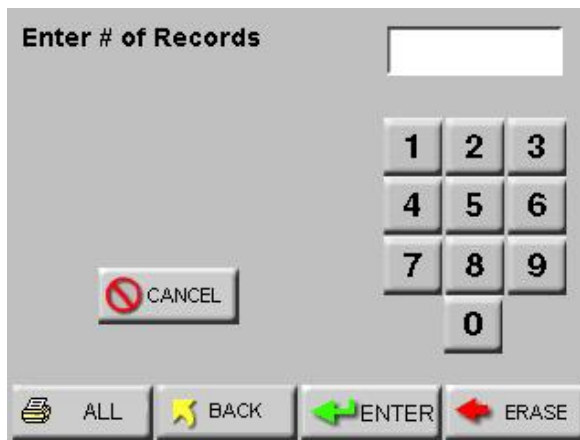

Figure 6-82 Print Range Screen
- Press the RANGE button. The Print Range screen displays as shown in Figure 6-82.